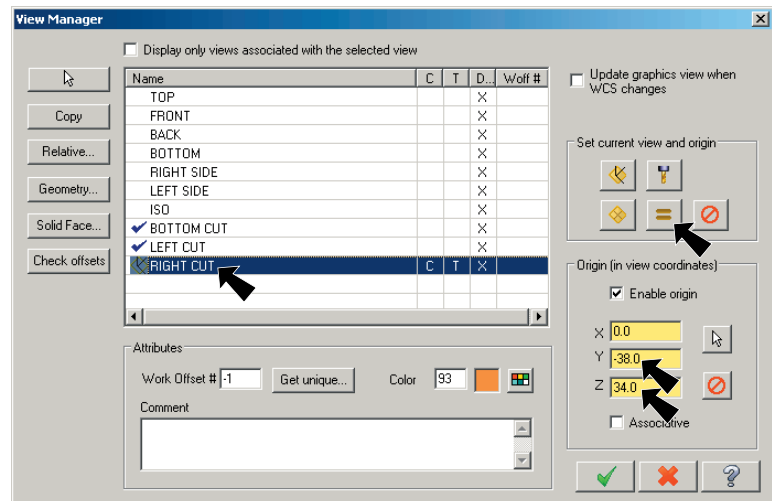

Fig. 97
Step 2. Click the **RIGHT CUT** view from the list of views in the View Manager, **Fig. 97**.
Step 3. Click the **Set All**  button, **Fig. 97** and click **OK** .